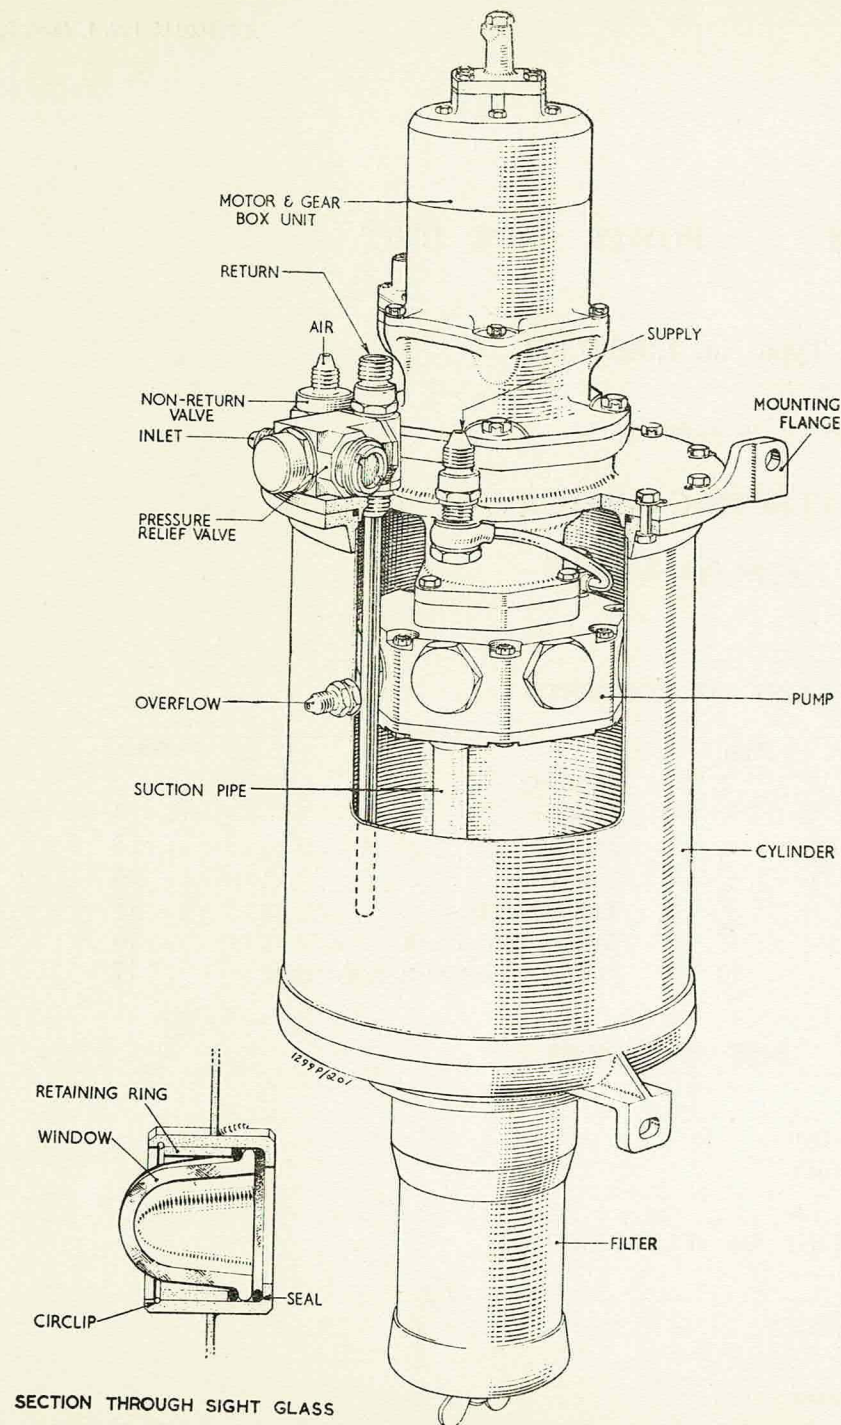

Fig. 1. Power pack
2. The cylinder (fig. 1) is of all welded construction having a securing ring at the upper end and a bottom fitting at the lower end. A sight glass housing and a boss for an overflow connection are also welded to the cylinder. The sight glass housing contains a window which is held between two seals by a retaining ring. The ring is held by a circlip.